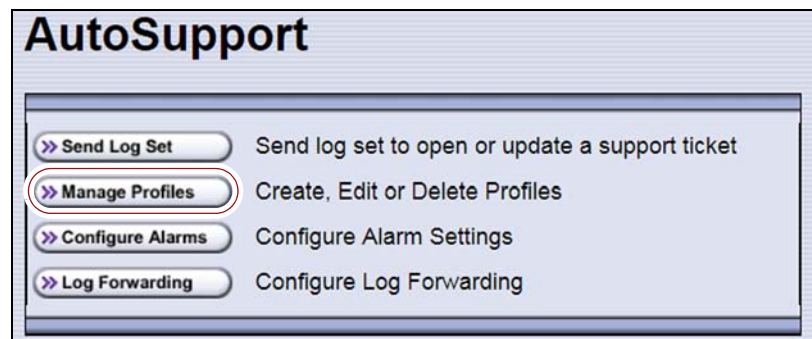

Figure 161 Click **Manage Profiles** to create or edit an AutoSupport profile.
If one of the profiles is configured as an AutoSend recipient, the **Configure Alarms** button is active (see Figure 161 on page 301).
2. From the toolbar menu, select **Maintenance**  **AutoSupport**. The AutoSupport screen displays (see Figure 161 on page 301).